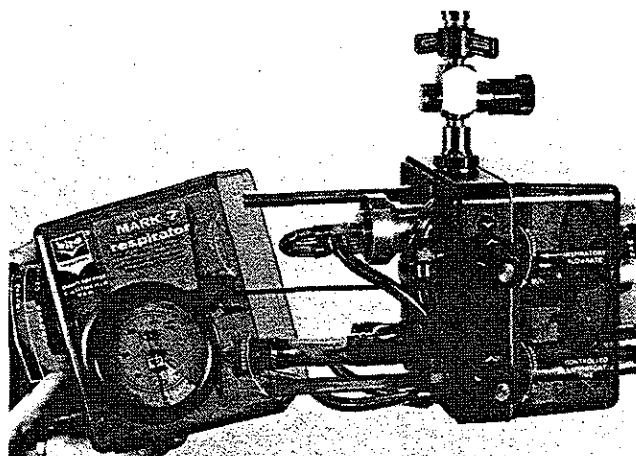

FIGURE 22
- 1.1 Remove (2) socket screws and washers using 3/16" allen wrench and carefully pull Ambient Compartment off until the hand timing rod clears the magnet (Fig. 22).